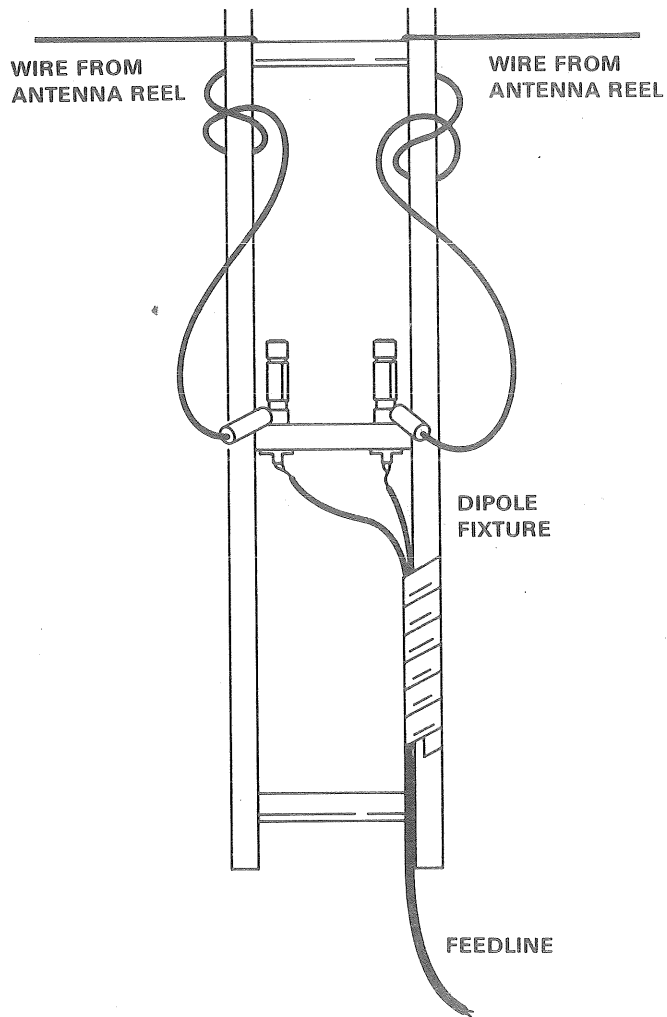

Figure 6. Dipole antenna fixture connections
- a. Attach each dipole antenna wire to dipole antenna fixture as shown in figure 6.